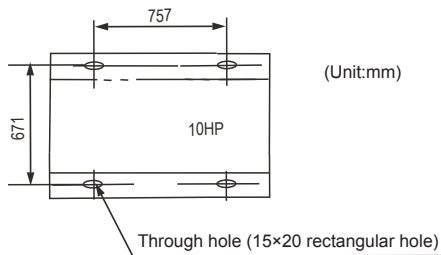

Fig.4-5
- The distance of the foundation bolt is shown in Fig.4-5.